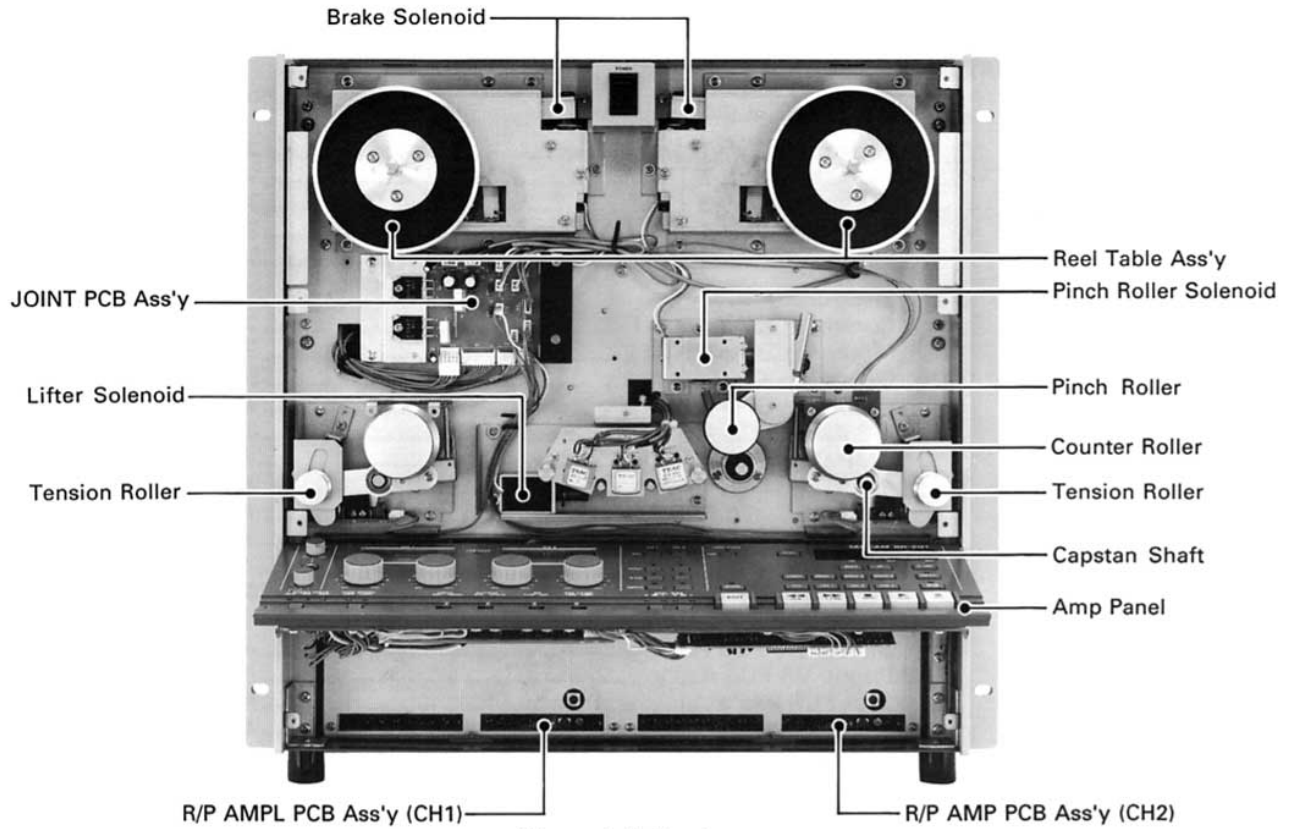
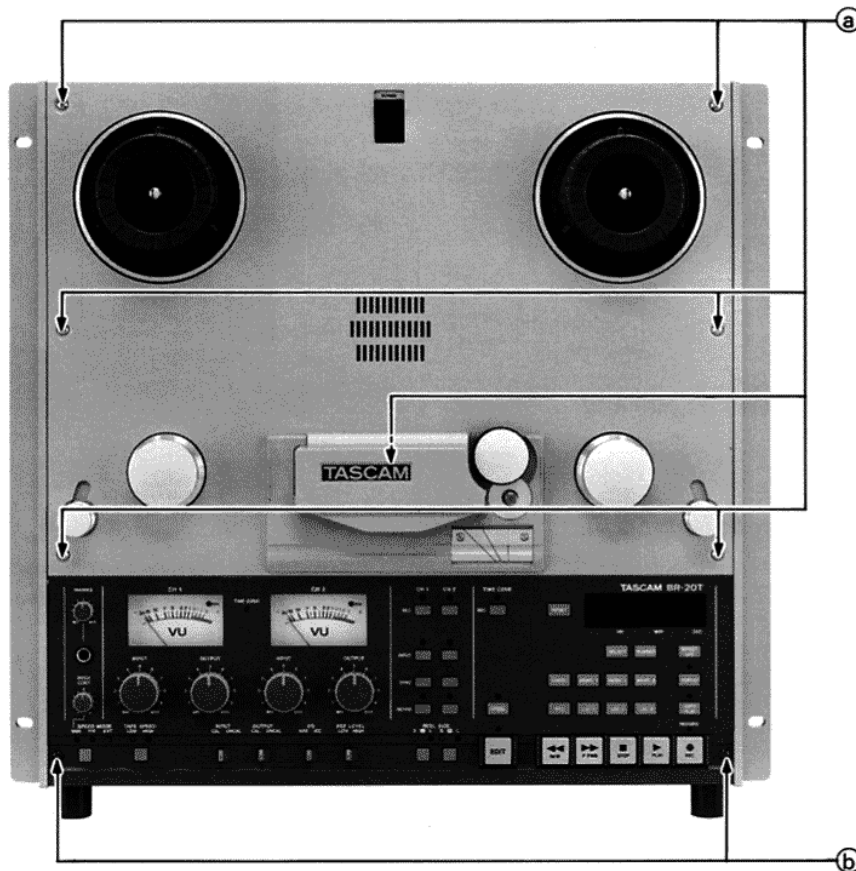

Figure 1-1. Front
Figure 4-1. Screw Locations for Removing Front Panel and Pushing Control Panel Open
2. Remove the seven "a" screws (Figure 4-1).
Remove the two "b" screws (Figure 4-1). The panel can then open as shown in Figure 1-1.